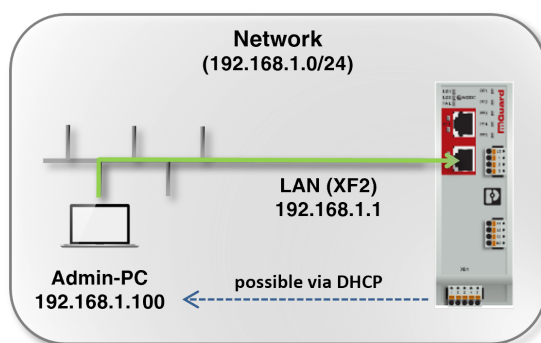

Figure 5-2 Establishing a network connection to the device (example)
To configure the device by means of a web browser (web-based management), you first have to connect it to a configuration computer (see Figure 5-2).
- Either directly or via the network, connect the configuration computer with a network port (e.g. XF2) of the LAN interface of the device (see Figure 5-2).